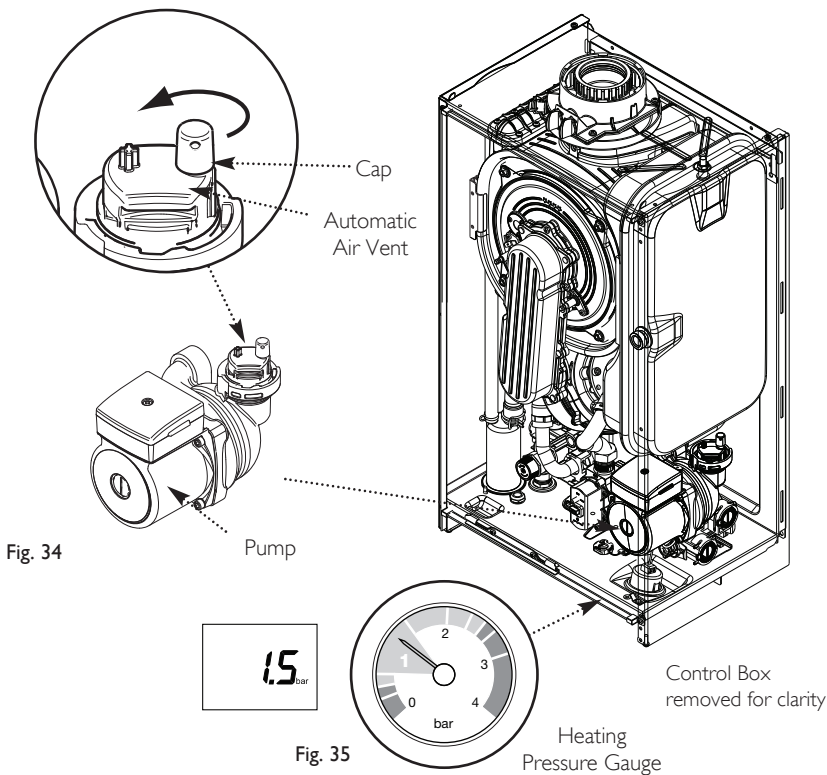

Fig. 34
- Ensure that the filling loop is connected and open, then open the heating flow and return valves on the boiler. Ensure that the cap on the automatic air vent on the pump body is opened (Fig. 34).